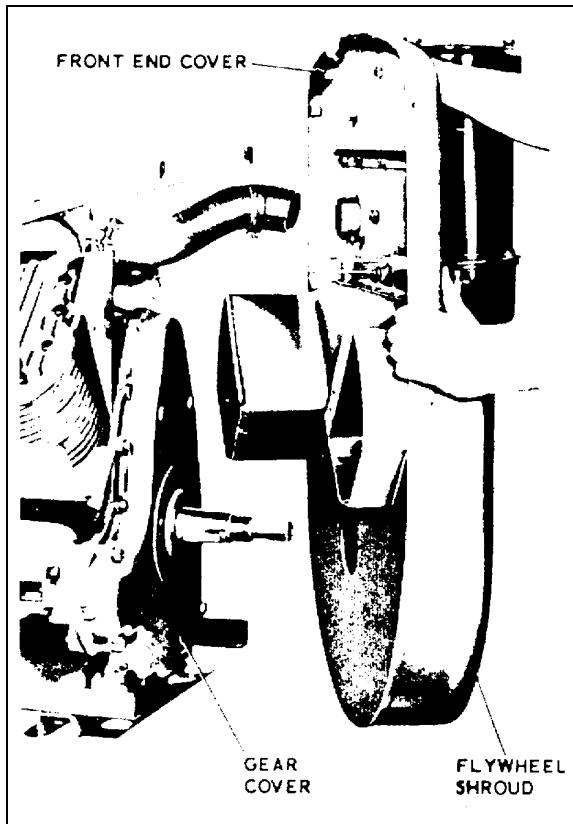

Figure 4-7. Removing Flywheel Shroud
(1) Remove starting motor and magneto. Remove cylinder head covers and screws mounting flywheel shroud to lower cylinder shrouds and heat deflectors. Remove front end panel as shown in figure 4-7. Remove balance of shrouding. Drain crankcase oil.
(11) Install magneto and starting motor. Install shrouding (figure 4-7).